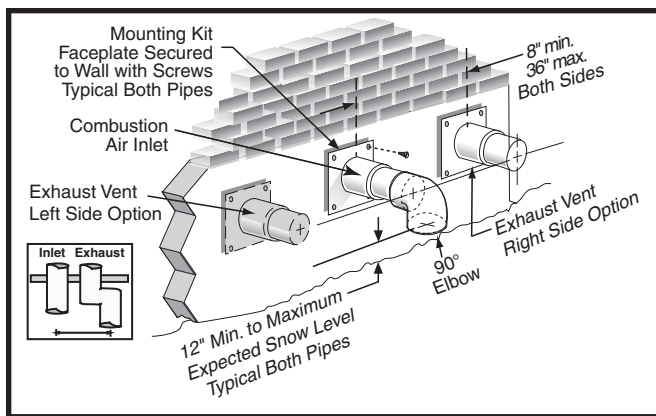
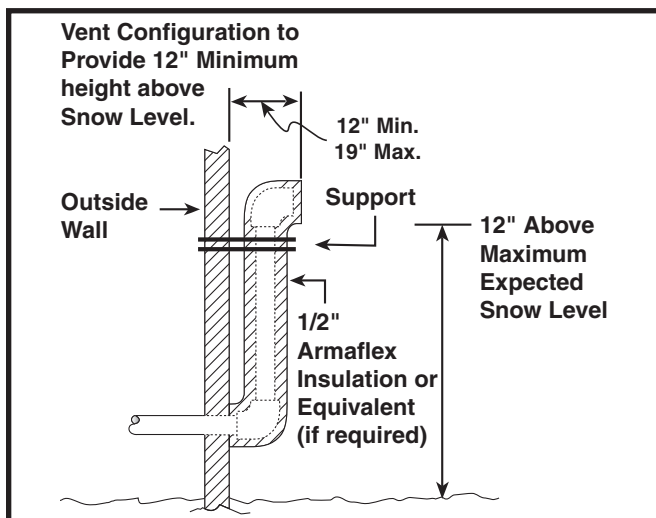

Figure 6. Exhaust and Combustion Air Pipe Clearances
Figure 8. Alternate Horizontal Vent Installation
Vent and combustion air intake terminations shall be installed as depicted in Figures 6 & 7 (page 13) and in accordance with these instructions:
- When the vent pipe must exit an exterior wall close to the grade or expected snow level where it is not possible to obtain clearances shown in Figure 6, a riser may be provided as shown in Figure 8 (page 13). Insulation is required to prevent freezing of this section of pipe. See Table 1 (page 13) for vent freezing protection.